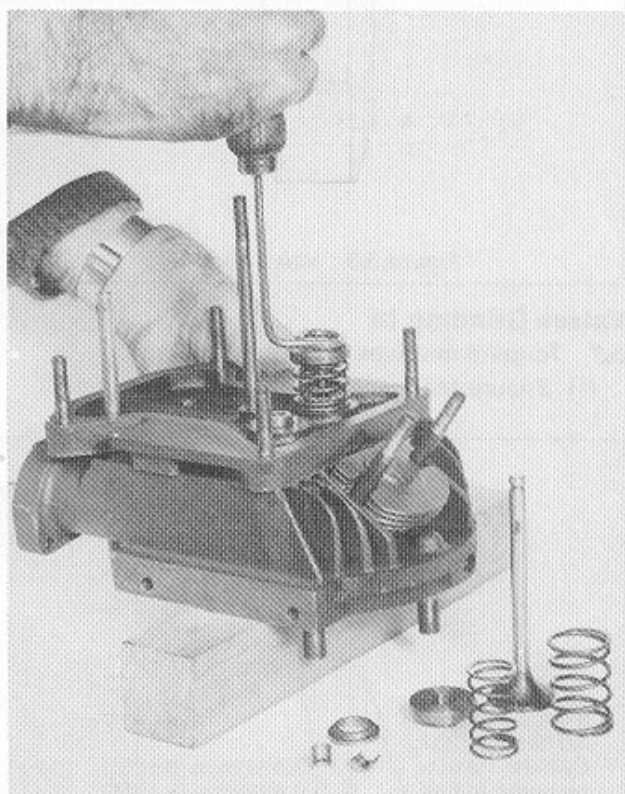

Figure 5.2 Valve Removal
##### Valves Removal (Figure 5.2)
**5.5** To remove the valves, place the cylinder head on a block of wood as shown in Figure 5.2. Using the special tool as shown, press down the valve spring and remove the split collets from the valve stems. Withdraw the valves and springs noting their positions, that is inlet and exhaust.